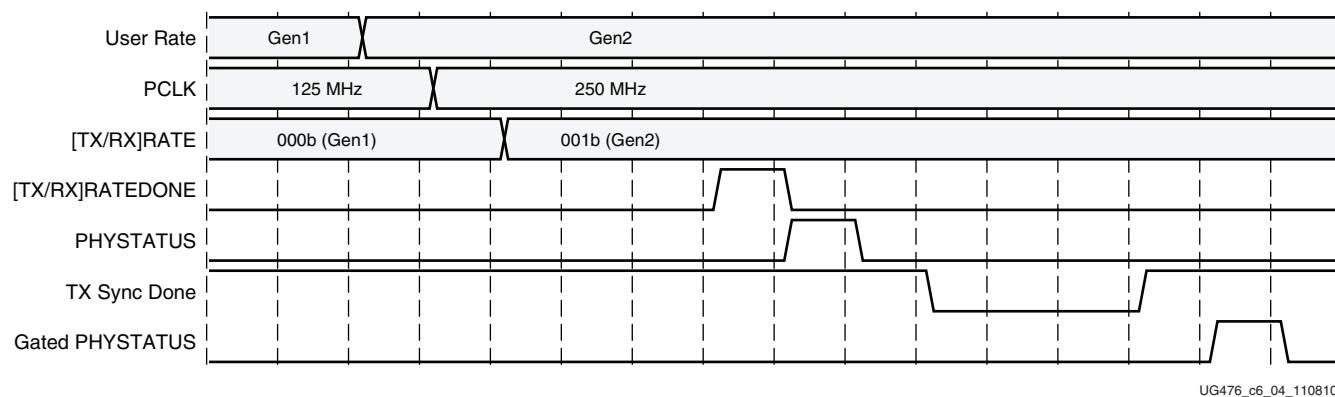

Figure 6-5: PCI Express Gen1 to Gen2 Rate Change Example
The use mode timing diagram in Figure 6-5 shows an example of a PCI Express rate change from Gen1 to Gen2 speed. In the figure, user rate, PCLK, TX sync done, and gated PHYSTATUS are example fabric user signals. PCLK is the source of [TX/RX]USRCLK2 and [TX/RX]USRCLK. It should be changed back to 125 MHz when entering Gen1 from Gen2 speed.
Notes relevant to Figure 6-5:
1. The sequence of events in Figure 6-5 is not drawn to scale.